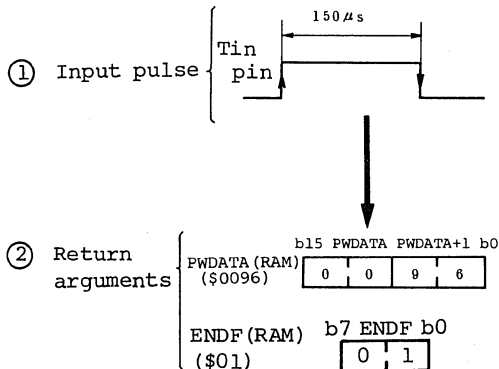

Figure 4-5. Example of PWCNT Execution
- b. Example of PWCNT execution is shown in figure 4-5. If pulse, whose High period of pulse is 150  $\mu$ s, is input as shown in part ① of figure 4-5, measurement result is stored in PWCNT (RAM) as a hexadecimal number and "1" is stored in ENDF (RAM).